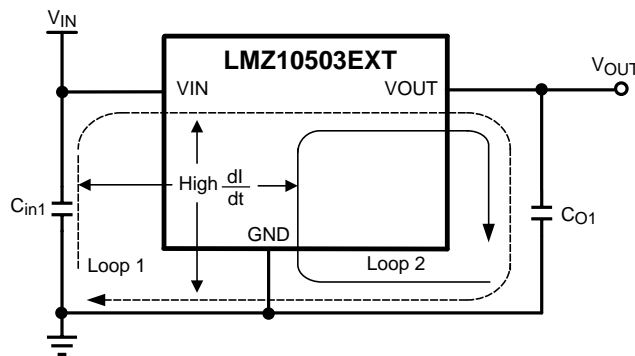

Figure 20. High Current Loops
From an EMI reduction standpoint, it is imperative to minimize the high di/dt current paths. The high current that does not overlap contains high di/dt , see Figure 20. Therefore physically place input capacitor (C_{in1}) as close as possible to the LMZ10503EXT VIN pin and GND exposed pad to avoid observable high frequency noise on the output pin. This will minimize the high di/dt area and reduce radiated EMI. Additionally, grounding for both the input and output capacitor should consist of a localized top side plane that connects to the GND exposed pad (EP).